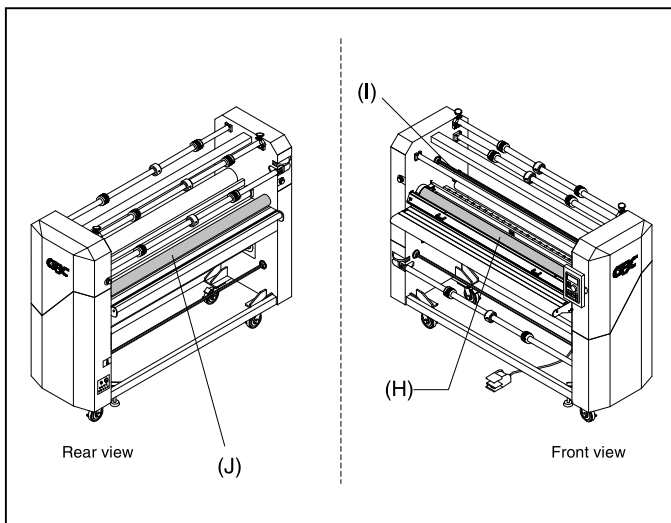

Fig. 15
H. HEAT ROLLERS: (Figure 15) Silicone rubber coated steel tubes heat the laminating film and compress the heated film to the items being laminated. Heat is provided by an internal heating element. The heat rollers are motor driven for ease of loading new film.
I. IDLER BAR: (Figure 15) The idler bars, located near each heat roller, are used to direct the film to the heat roller nip. The bottom Idler Bar is movable to ease film loading.
J. PULL ROLLERS: (Figure 15) The pull rollers, located at the back of the laminator, are motor driven. They simultaneously pull the film and improve the quality of the laminated item.